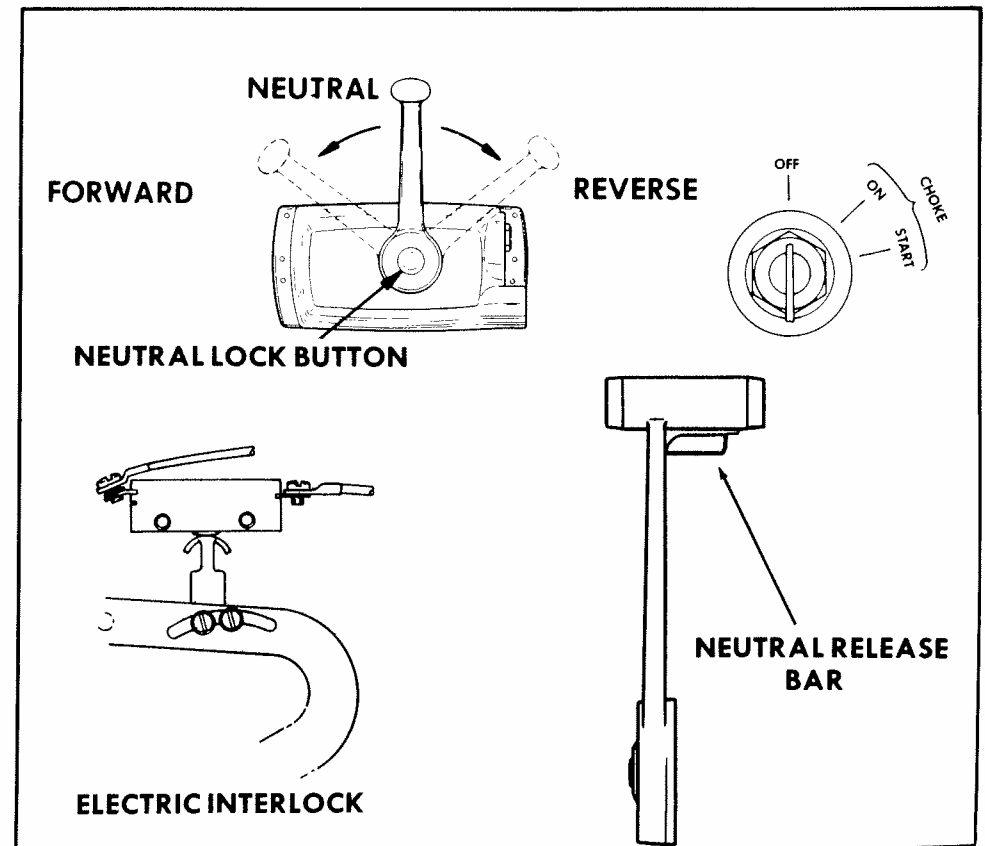

FIGURE 11
4. Place control lever in "Neutral" position. (See Figure 11.)
8. Engage electric starter motor by turning and holding ignition key in start position. For cold engine starting, choke engine at same time by depressing key. (See Figure 11.)
NOTE: Return Control Lever to "Neutral" position, turn ignition key to "Off" position. (See Figure 11.)